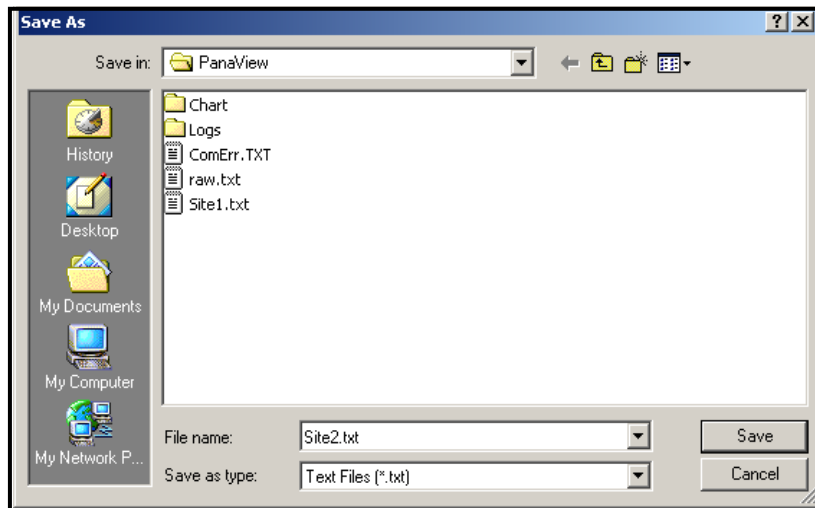

Figure 30: *Save As* Window
To save the raw signal, click **Save**. A window opens similar to that shown in *Figure 30* below. Enter the desired name, and click **Save** to save the signal as a text file.
2. Click *Save Site to PC*. A window opens similar to *Figure 30 on page 103*.